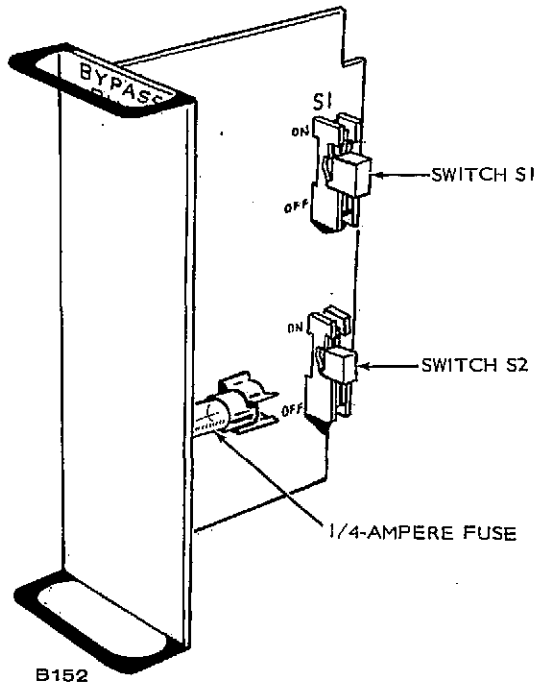

FIGURE 24. BYPASS PLUG MODULE
8. Spec A and B: Set switches S1 and S2 on the bypass module 300-0927 to the correct position (instructions on bypass module printed circuit board) for the particular bypass and insert the module. See Figure 24.